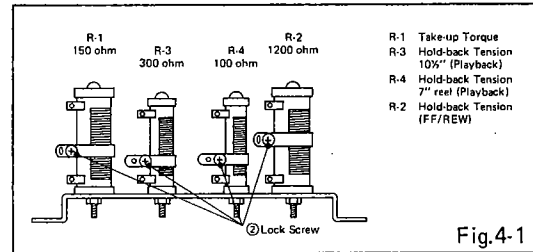

Fig.4-1
Fig. 4-1 and Fig. 8 on page M-14
- 3) Loosen Lock Screw ② securing the adjustment band on the R-3 in Fig. 4-1 and adjust the position of the adjustment band so that the spring balance indicate 120g.